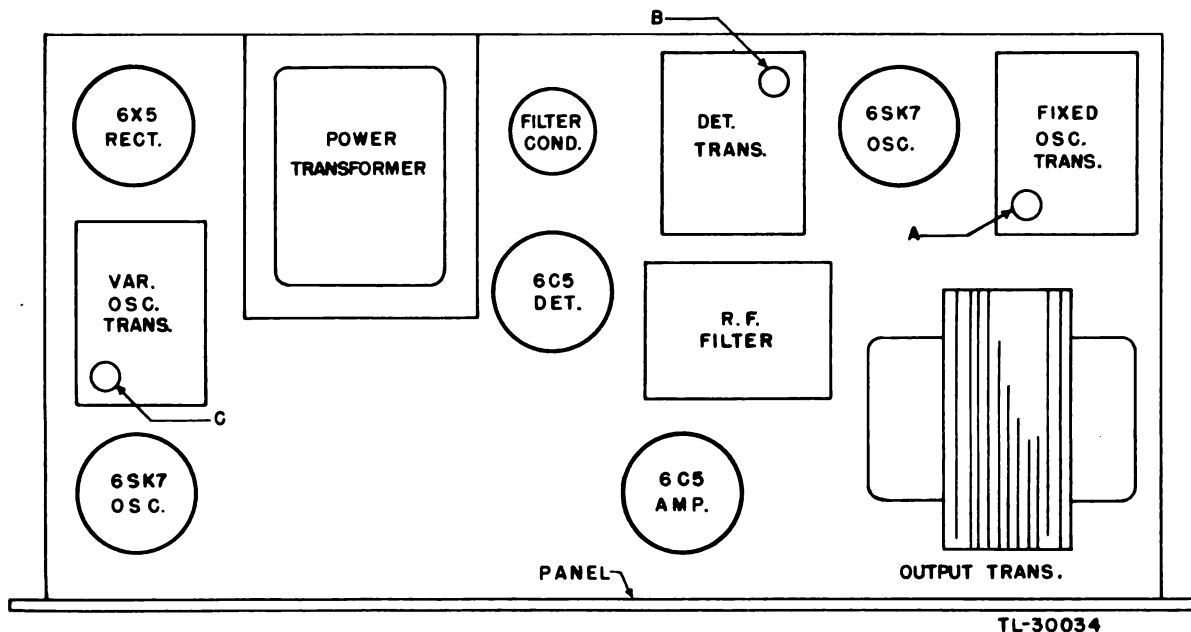
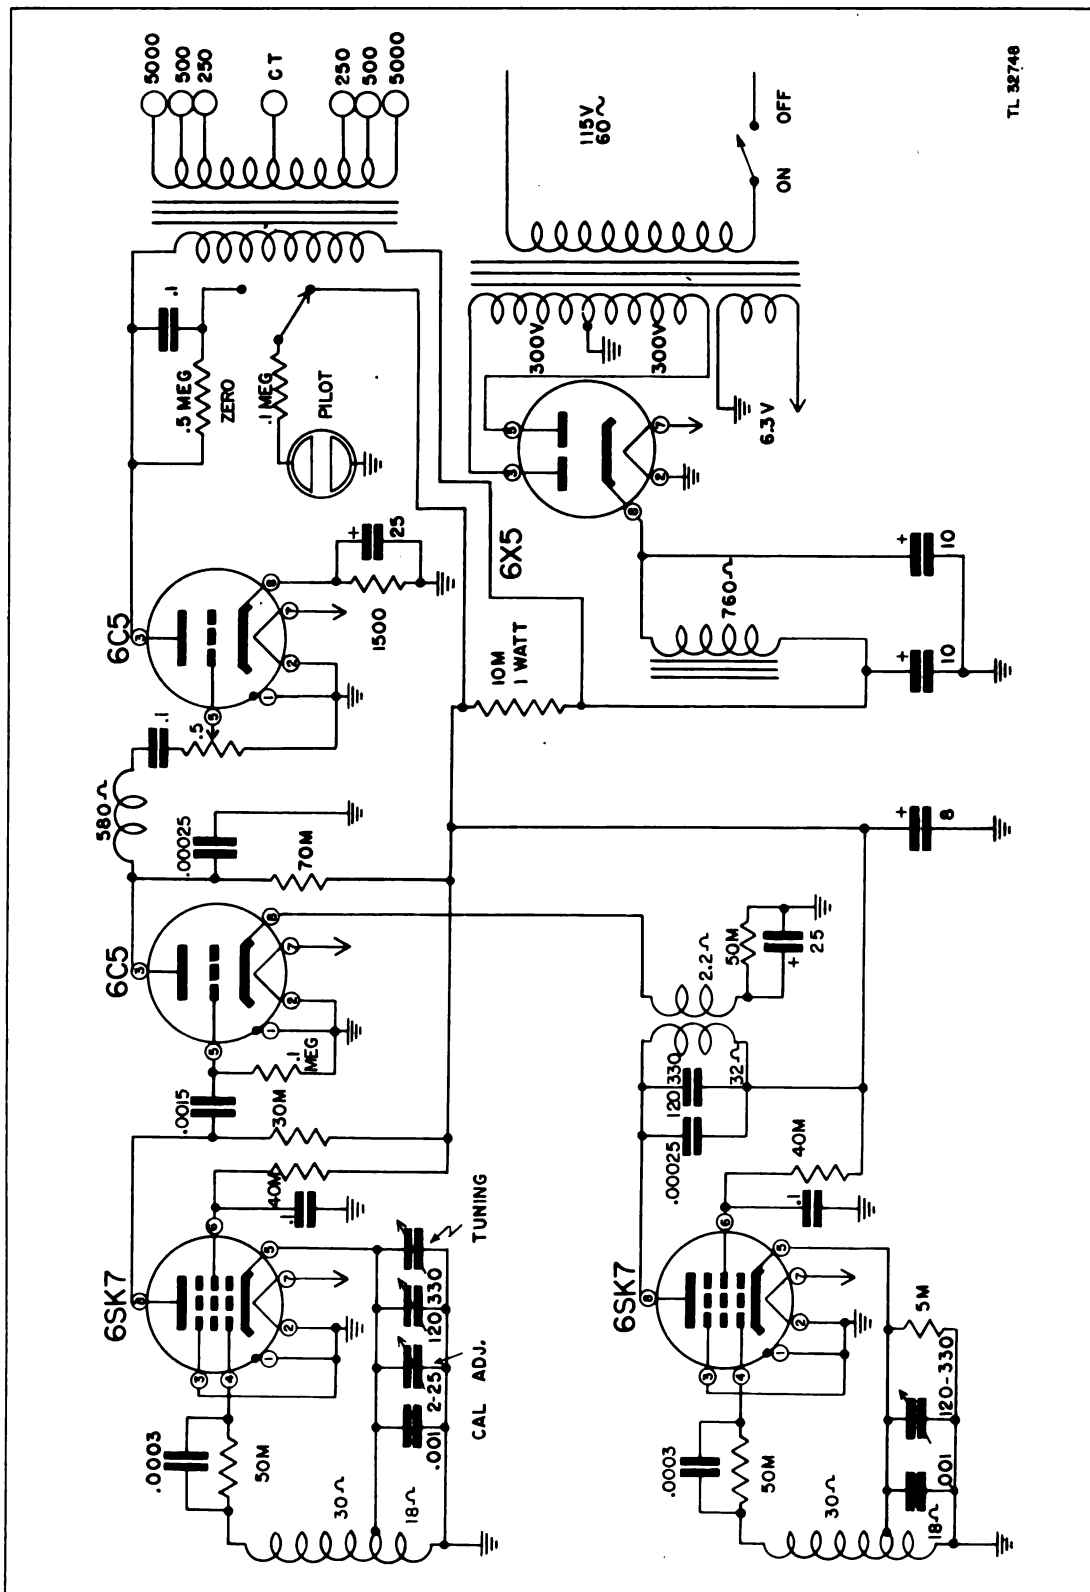

Figure 44. Audio oscillator, Supreme model 563, chassis arrangement.
Figure 46. Audio oscillator, Supreme model 563, schematic diagram.
b. As shown in the circuit diagram (fig. 46), the two r-f oscillators using type 6SK7 (VT-117) tubes are of the electron-coupled oscillator type. The fixed oscillator has a tuned plate circuit effectively eliminating harmonics of the fundamental, and it is inductively coupled to the cathode of the mixer tube type 6C5 (VT-65). The variable oscillator has a tuning coil, fixed capacitor, and trimmer, which are identical with those of the fixed oscillator. The variable oscillator also has a variable tuning capacitor and a calibration-adjusting capacitor. The output of the variable oscillator is applied through normal resistance-capacitance (RC) coupling to the grid of the mixer tube. The resulting audio beat frequency is filtered through a choke capacitance network which eliminates the r-f frequencies. This filtered voltage is applied to the grid of the tube 6C5 (VT-65) audio-amplifier tube through a 500,000-ohm potentiometer which serves as the OUTPUT control.
a. General. (1) Audio oscillator Supreme model 563 is a precision instrument, and no maintenance will be attempted by inexperienced personnel.
(2) Complete maintenance on this audio oscillator will consist chiefly of tube replacement and, to a lesser extent, replacement of component parts. Fault location can be ascertained by continuity tests, resistance measurements, voltage readings, signal tracing, and visual inspection.
(3) Figure 44 is a diagram of the chassis layout and figure 45 shows the arrangement (bottom view) and voltage measurements of tube sockets. The schematic diagram (fig. 46) contains information regarding tube bases, power-supply voltages, and values of component parts.
e. Recalibration Procedure. (1) With the instrument removed from the case, place it in operation as described in paragraph 151.
(2) Set the tuning capacitor completely out of mesh, and check to see that the reference line of the dial coincides with the indicator line on the panel.
(3) Connect the 5,000-ohm impedance-matching binding posts to the vertical input circuit of an oscilloscope.
(4) Some standard source of signal is required: either an accurately calibrated laboratory a-f oscillator or an accurate crystal-controlled oscillator, such as Calibrator I-168.
(5) Connect this standard source of signal directly into the horizontal plates of the oscilloscope without going through the sweep circuit, and set the standard source of signal at 15,000 cycles if that frequency is within its range.
(6) Set the dial of the Supreme model 563 oscillator at 15,000 cycles and rotate the dial to either side of this setting until a stationary circle, ellipse, or slanted straight line is obtained on the oscilloscope screen, indicating that the frequency of the Supreme model 563 is equal to the frequency of the standard signal generator.
(7) Unless there is trouble in the instrument being calibrated, the point reached in operation (6) should be very close to the 15M mark on the dial. Note the error in the dial reading and, should it be low (say at 14M), turn trimmer adjustment A (fig. 44) in a counterclockwise direction, approximately $\frac{1}{3}$ revolution. Reset the dial to the 0 mark and adjust trimmer screw C (fig. 44) until zero beat is indicated by the neon light. Again check the calibration at the 15M mark, using the oscilloscope as an indicator and using the standard 15M-cycle signal as a reference.
(8) Repeat this procedure until the 15M mark is correctly calibrated. After each adjustment of trimmer capacitor A it is necessary to reset the dial to the 0 mark and to obtain the zero-beat by adjusting trimmer screw C.
(9) In cases where the initial error in the dial reading is high rather than low, adjust screw A in a clockwise direction rather than counterclockwise and proceed as described above (subpar. (7)).
(10) Adjust screw B (fig. 44) for maximum output as indicated on the oscilloscope. Set CAL. ADJ. control to 5 and main tuning dial to the 0 mark. Zero-beat the instrument by adjusting screw C. This places the CAL. ADJ. control in the position that will give the greatest variation from zero beat. Unless the capacitor plates have been bent, the remainder of the dial will now be calibrated.
(11) If it is desired to check other points than both ends of the scale, set the standard source of a-f sig-